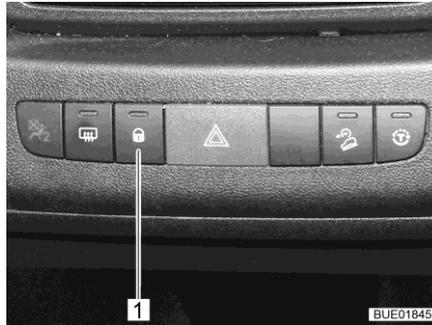

Fig. 69 Central locking system switch
- Unlocking:** ■ Press the button (Fig. 69,1). The door locks are unlatched.
- Locking:** ■ Press the button (Fig. 69,1). The door locks are locked. The indicator lamp in the button lights up.